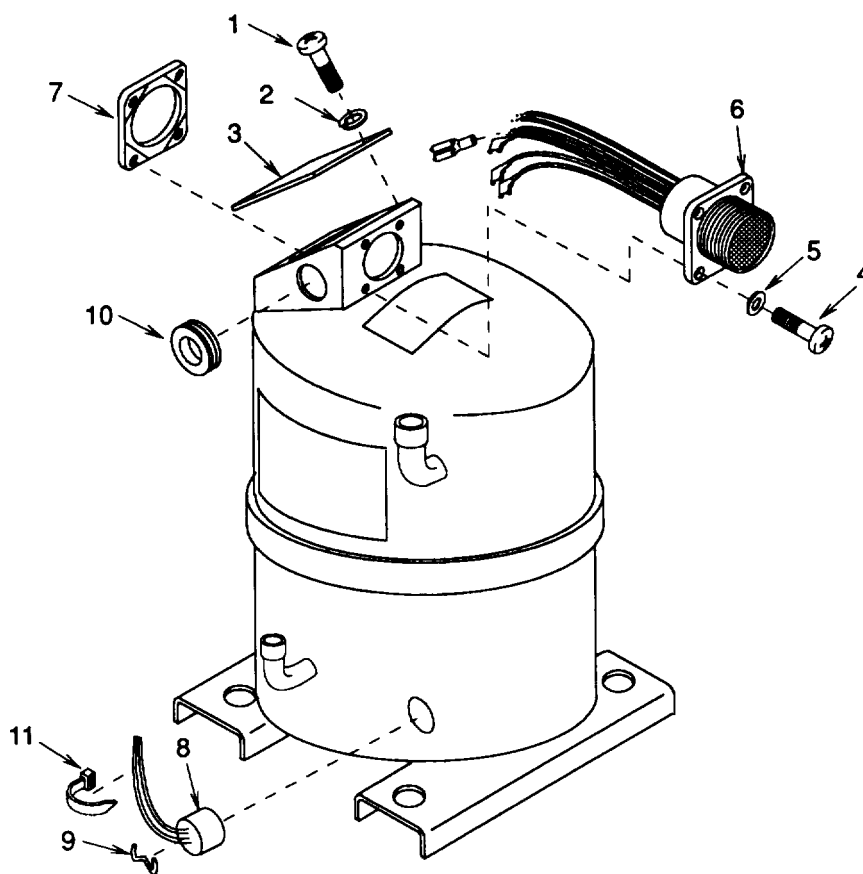

Figure 5-24. Compressor Repair
- b. Repair. (See figure 5-24.)
- (1) Remove four screws (1), lock washers (2), and cover plate (3)
- (2) Connector (6).
- (a) Remove four screws (4) and flat washers (5). Carefully pull connector (6) out enough to access the terminal connections.
- (b) Tag and disconnect wire leads. Remove the connector (6) and retainer ring (7). (See paragraph 4-24.)